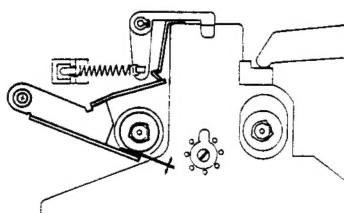
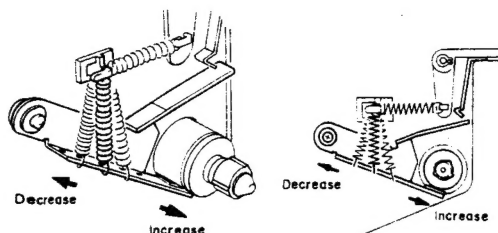

Fig. 2.12
Fig. 2.13
- (4) Set the cassette deck in Stop mode, and remove the Tension Arm Adjustment Cassette (DA09056A), then set the cassette deck in Cue mode. In Cue mode, check to insure that the gap is found between the Supply Reel Hub B Ass'y and the Felt of Back Tension Ass'y as shown in Fig. 2.12.
- (5) Load the Back Tension Gauge (DA09055A) in the cassette deck.
- (6) Set the cassette deck in Play mode and read the torque value of Back Tension Gauge. If the value is in a range of 6 g-cm to 10 g-cm, adjustment is not necessary. If not, change the installation point of the Back Tension Spring as shown in Fig. 2.13, and obtain the torque of 7 g-cm to 9 g-cm range.